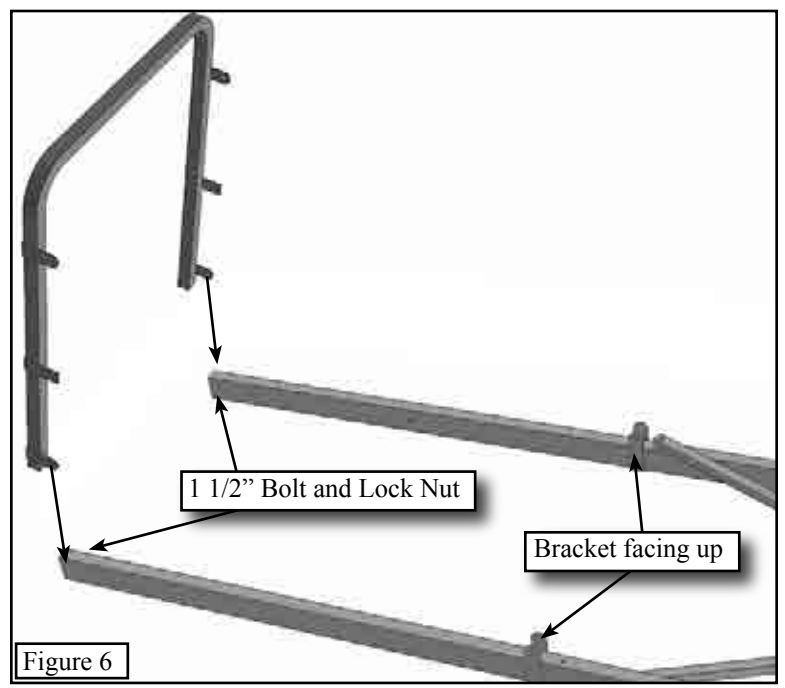

Figure 6
Step 1. Orient the Arm Rest and the Top Support Assembly as shown in **Figure 6**.